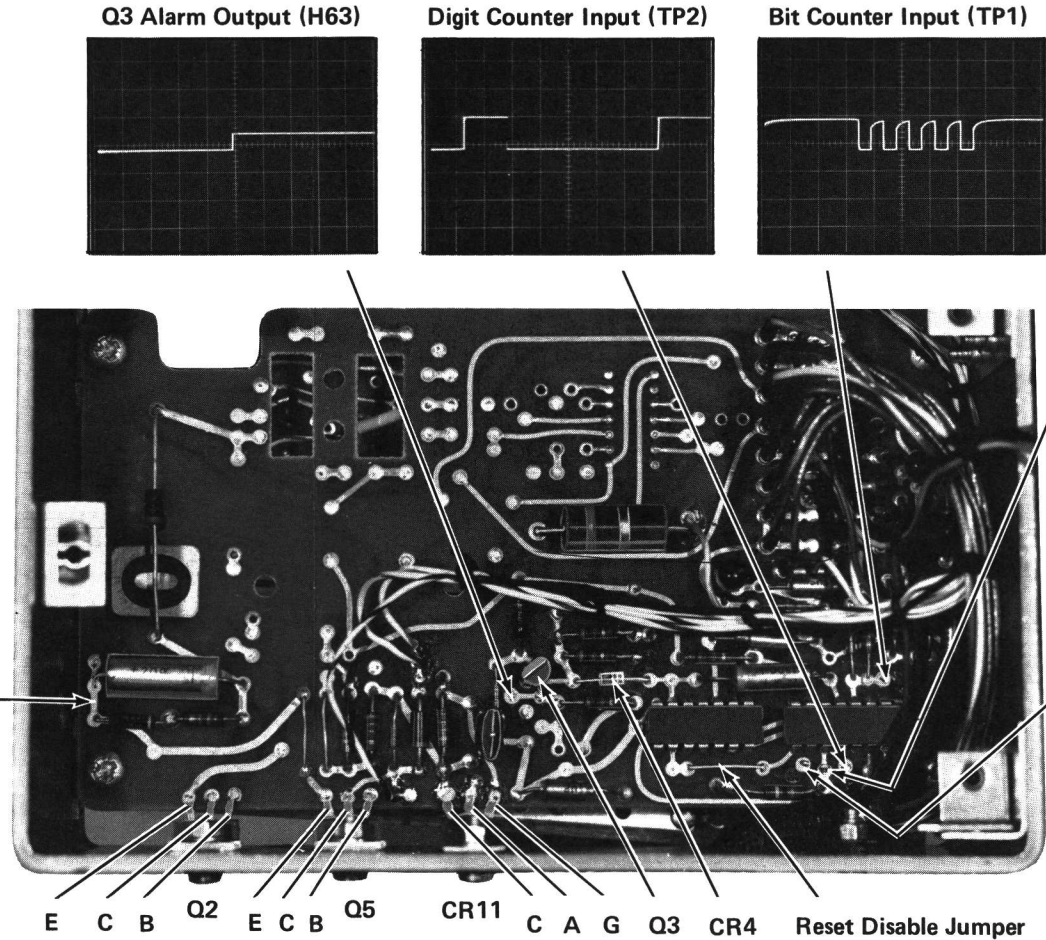
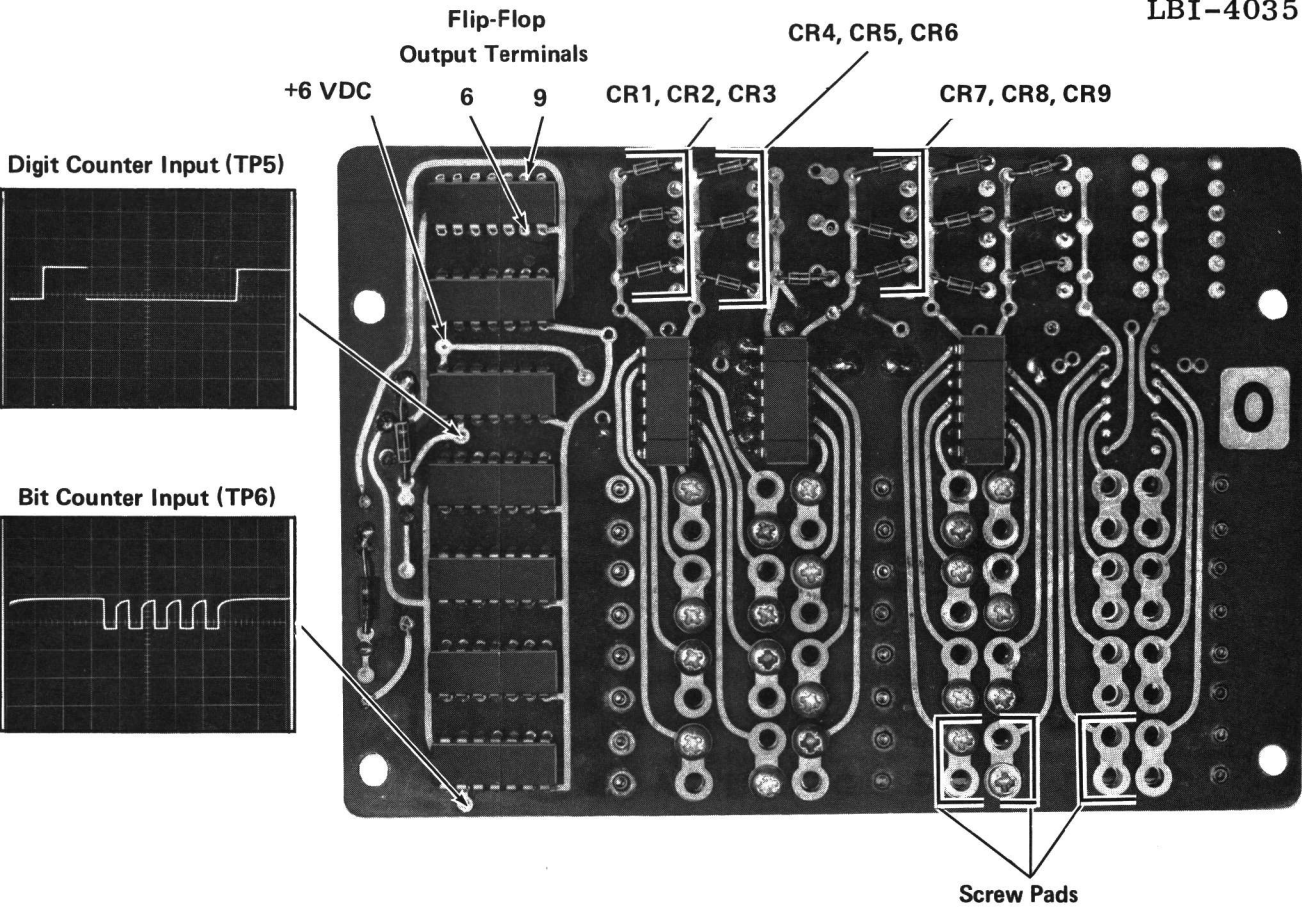

Figure 16 - Pulse Routing Board
Figure 17 - Counter Board
- All waveforms shown are with the proper tone applied and the digit 5 dialed. Note: the digit 6 was dialed for the incorrect code reset waveform shown in Figure 16.
- Before starting the procedure, check for +6 volts DC at the emitter of regulator transistor Q2 (see Fig. 16). Then check for +6 volts on the Counter and Tone Receiver Boards (see Figs. 17 and 18).
CALL light doesn't light	<ol style="list-style-type: none"> Unscrew CALL light lens cover and check bulb DS1701. Check contacts on RESET switch S1702. Check silicon-controlled rectifier CR11 (see Fig. 16). Check Q3 (see Fig. 16). Check contacts of EXT ALARM switch S1701.
Sounder option doesn't operate	<ol style="list-style-type: none"> Check to see that S1701 is not in the HORN position. Connect the collector of Q5 to battery negative (see Fig. 16). If the sounder operates, check Q5 and Q3. If the sounder doesn't operate, check the components on the sounder board.
Decoder responds to a wrong code	<ol style="list-style-type: none"> Check the screw placement on the counter board (refer to the Code Setting Procedure as listed in the Table of Contents). Check to see that no screws are missing (one screw in each pad). If All-Call or Group-Call are not used, make sure that a jumper is installed from H11 to H12 to disable All-Call, or a jumper is installed from H13 to H14 to disable Group-Call (refer to the Code Setting Procedure as listed in the Table of Contents). Check diode CR4 (see Fig. 16).
Decoder doesn't respond to correct code	<ol style="list-style-type: none"> Check the screw placement on the counter board (refer to the Code Setting Procedure as listed in the Table of Contents). At no time should two screws be located in any one screw pad (see Figure 17). Dial a "5" and check the waveforms at TP1 and TP2 (see Fig. 16). If the proper waveforms are not present, refer to Tone Receiver Board Checks. If proper waveform is present, continue with Step 3. Dial a correct first digit and keep the tone on after dialing. All of the screw heads in row A should measure approximately +6 volts DC, which indicates that the first digit was counted correctly. Dial a correct second digit and keep the tone on after dialing. All of the screw heads in row B should be at +6 volts, indicating the second digit was counted correctly. Dial a correct third digit and keep the tone on after dialing. All of the screw heads in row C should measure +6 volts, indicating that the third digit was counted correctly. If all of the digits are counted correctly, check the alarm output of Q3 at H63 (see Fig. 16) and check the output circuit (Q3, Q5, CR15, etc.). If the screw heads do not go to +6 volts during the digit checks, continue with Step 4.
Decoder dosen't respond to correct code (cont'd)	<ol style="list-style-type: none"> Connect the reset disable jumper to battery negative to prevent re-setting while dialing (see Fig. 16). Dial the correct first digit again, keeping the tone on after dialing. Check the screw heads in row A again for +6 volts. If all of the screw heads are at +6 volts, check for a positive voltage at the cathode of CR1, CR2 and CR3. If the screw heads or cathodes are not positive, check the flip-flops as instructed in Step 5. If the screw heads and cathodes are positive (indicating a correct count), dial the second and third correct digits to check the screw heads in rows B and C, and the cathode of diodes CR4, CR5, CR6 and CR7, CR8, CR9. If all codes are counted correctly and the cathode of the diodes are positive, this indicates a fault in the reset circuit. Check the correct code, incorrect code reset and reset inhibit waveforms shown in Figure 16, and refer to the circuit analysis section for detailed operation and Truth Table for the reset circuitry. With the reset disable jumper connected, dial a "5" and check the input waveforms at TP5 and TP6 (see Fig. 17). If the waveforms are not correct, check the Tone Receiver Board or the envelope detector circuitry. If the waveforms are correct, check to see if the flip-flops are switching (one output terminal at +6 volts ("1") and the other at zero ("0")). Refer to the circuit analysis of the Counter Board and the Truth Table on the Schematic Diagram (see Table of Contents). If the flip-flops are not switching properly (both output terminals at zero volts or both at +6 volts), remove all of the screws in the bit counter flip-flop or unsolder all of the diodes in the output of the digit counter and re-check the flip-flop output. If the flip-flop does not switch correctly, replace the IC module. <p style="text-align: center;">NOTE</p> <p>To remove an IC module, clip off all of the leads as close as possible to the body of the module. Then unsolder and remove one lead at a time, being careful not to pull the printed wiring away from the board.</p>